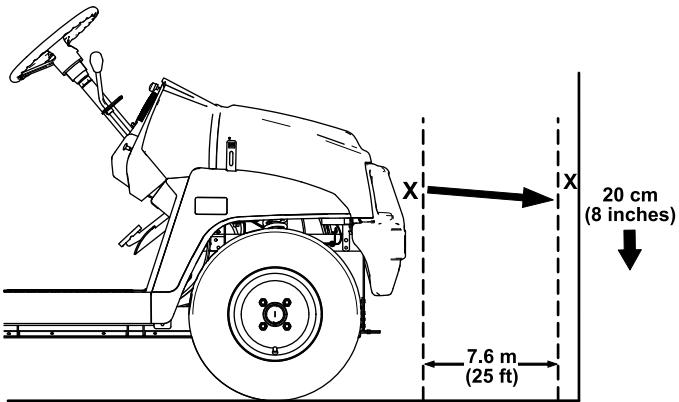

Figure 50
1. Park the machine on a level surface with the headlights approximately 7.6 m (25 ft) from a wall (Figure 50).
The brightest part of the headlight beam should be 20 cm (8 inches) below the mark placed on the wall (Figure 50).